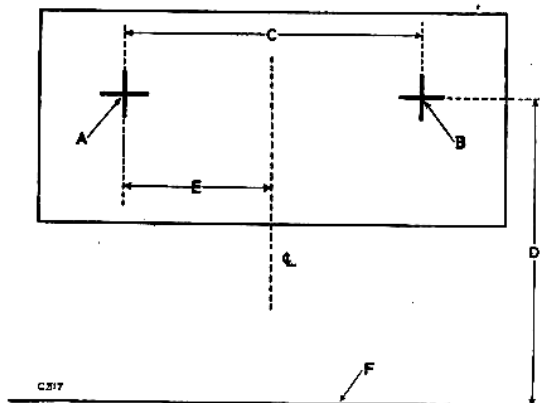

Fig. P-25—Headlamp beam setting board, 1954-58 models
- Mark on a board the dimensions given in Fig. P-25 and position the vehicle, unladen, on level ground.